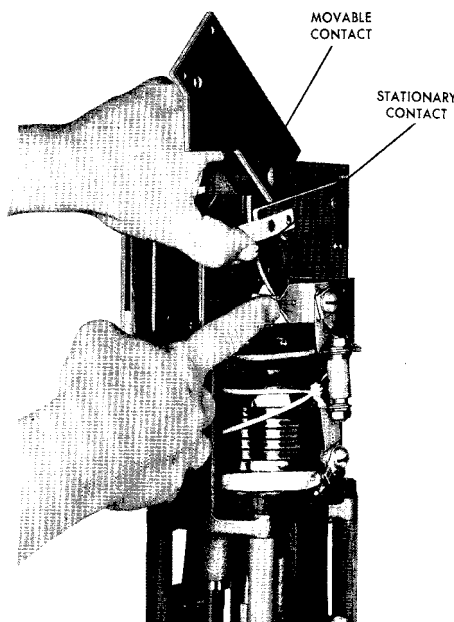

Figure 3. Reassembling arc-interrupting structure
- B. Remove the two screws from arc shield and swing shield upward. See Figure 3.
- D. Lift movable contact and clean both contacts with crocus cloth. See Figure 3.
- D. Install new unit in same position by reversing above procedure. Be sure interrupting structure is oriented as shown in Figure 3.